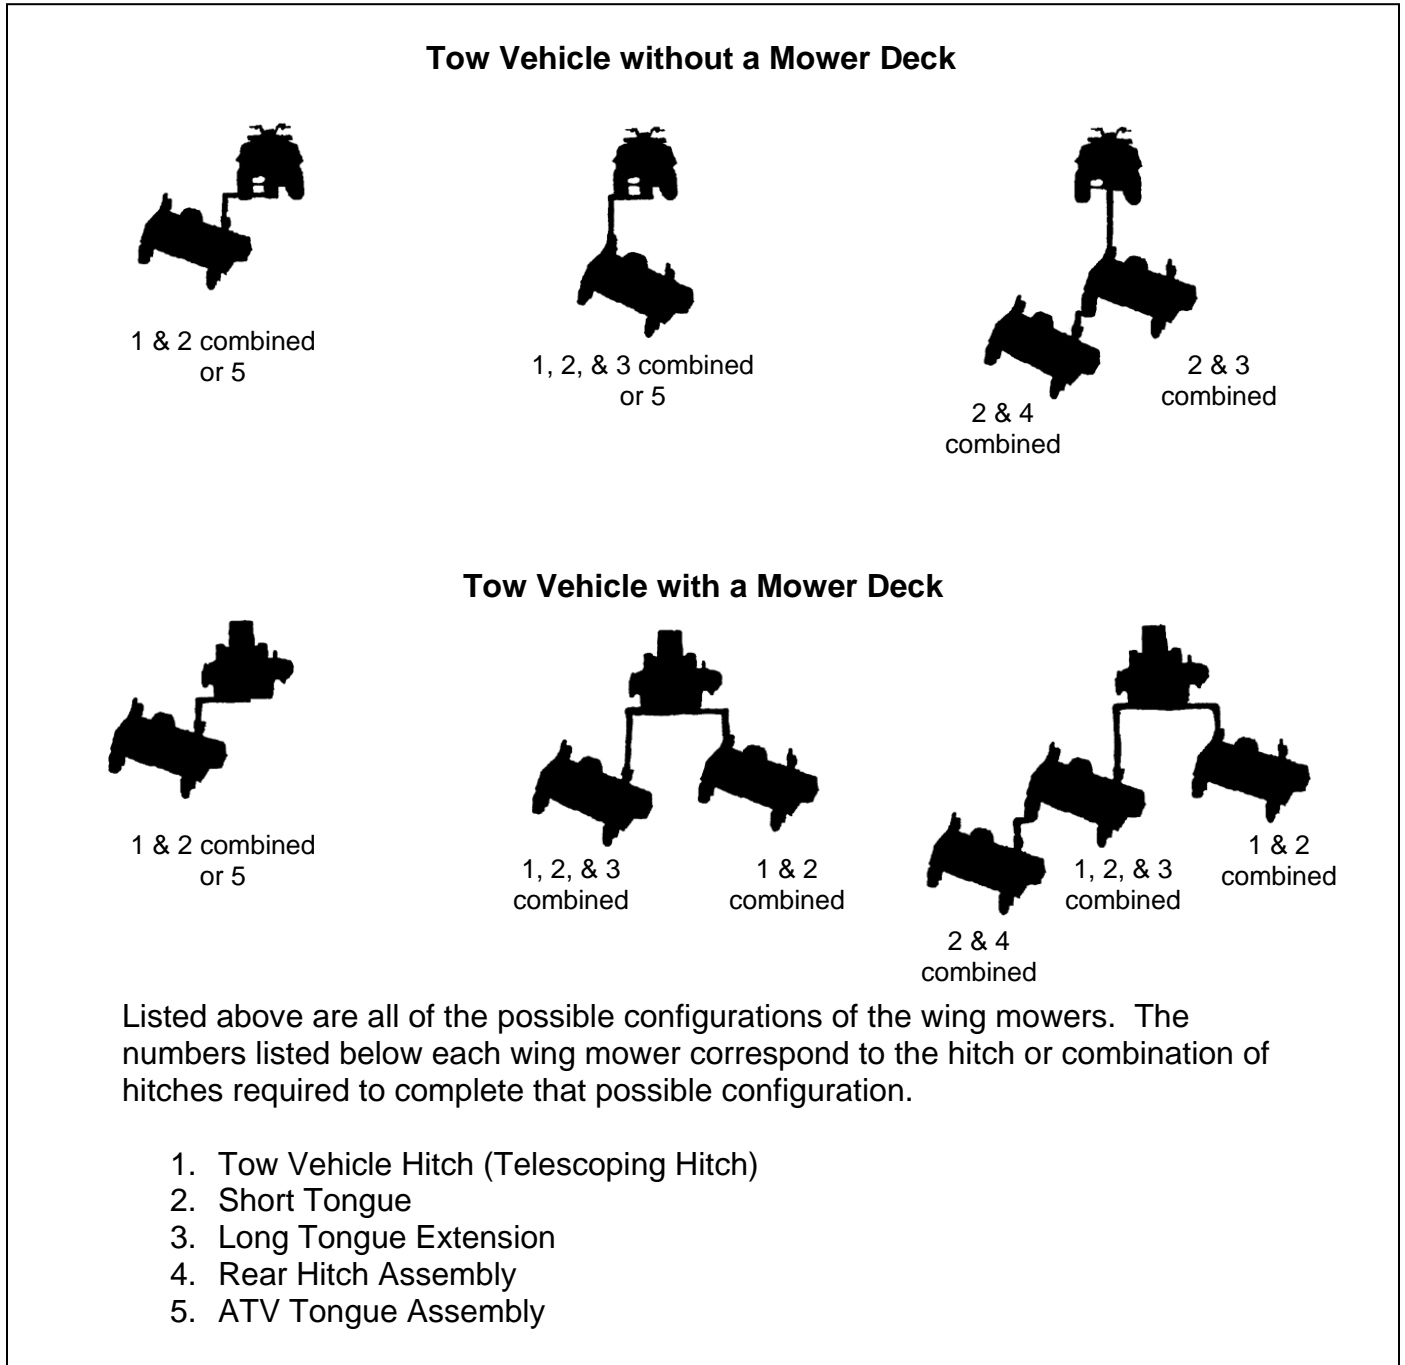

Figure 6: Wing Mower Towing Suggestions and Required Hitches
A. HITCH CONFIGURATIONS (Refer to Figure 6)
B. ATV TONGUE CONFIGURATIONS (Refer to Figure 6)